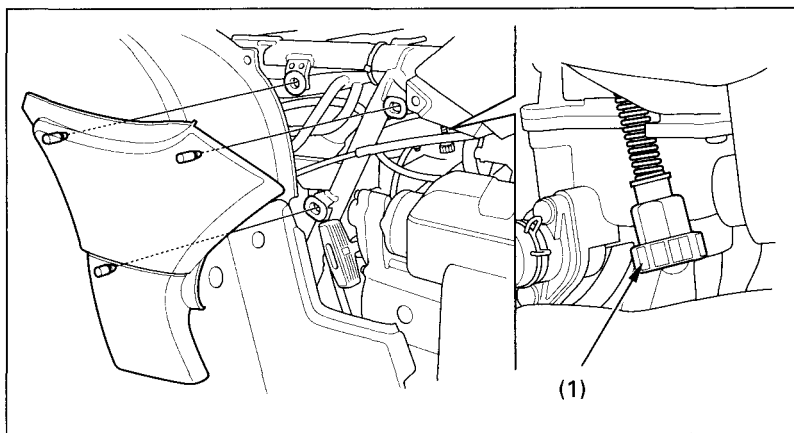

Fig. 4-10 (1) Throttle stop screw
Before adjusting the idle speed and air-fuel mixture, unsnap the right side cover. (Fig. 4-10 )
3. Adjust idle speed by turning the throttle stop screw (Fig. 4-10 ).